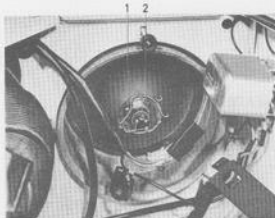

Fig. 3-114. Headlight, rear side
2. Compress and remove the spring (1, Fig. 3-114), holding the bulb to the insert and take out the bulb.